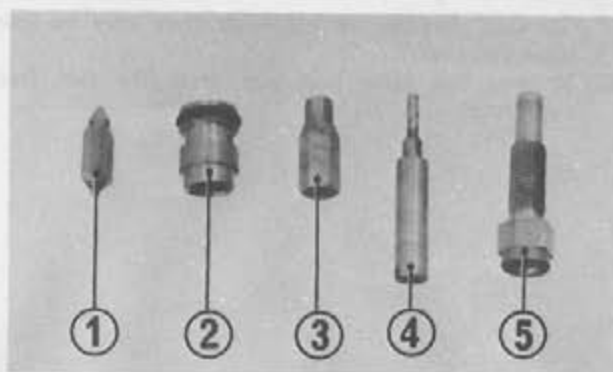

Fig. 3-78 (1) Float valve (2) Valve seat (3) Main jet (4) Slow jet (5) Jet needle
- 15. Remove each part as shown in Fig. 3-78.